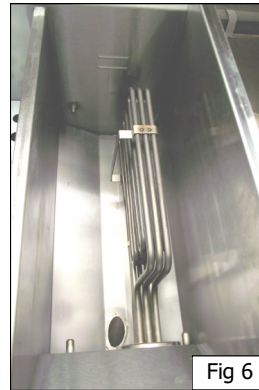

Fig 6
8. Rotate the elements to the vertical (Cleaning) position (Fig 6) and continue to dip and pour until all crumbs are washed down and into filter bag.